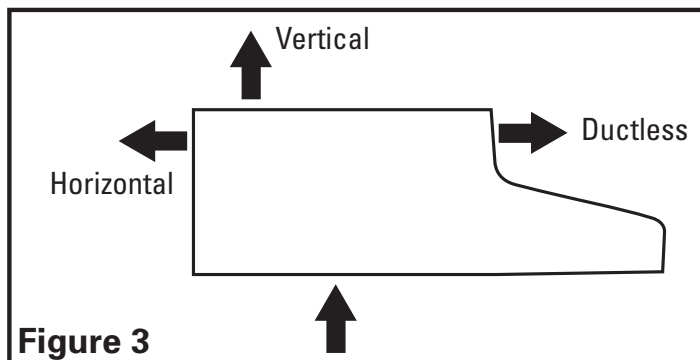

Figure 3
- Choose the type of ducting you will require. This model is equipped to vent either Vertically or Horizontally through a 3-1/4" x 10" duct. It can be modified to be ductless (re-circulates the air back into the kitchen) with the addition of 2 models CF-01 Charcoal Filters (not included) (**Figure 3**).